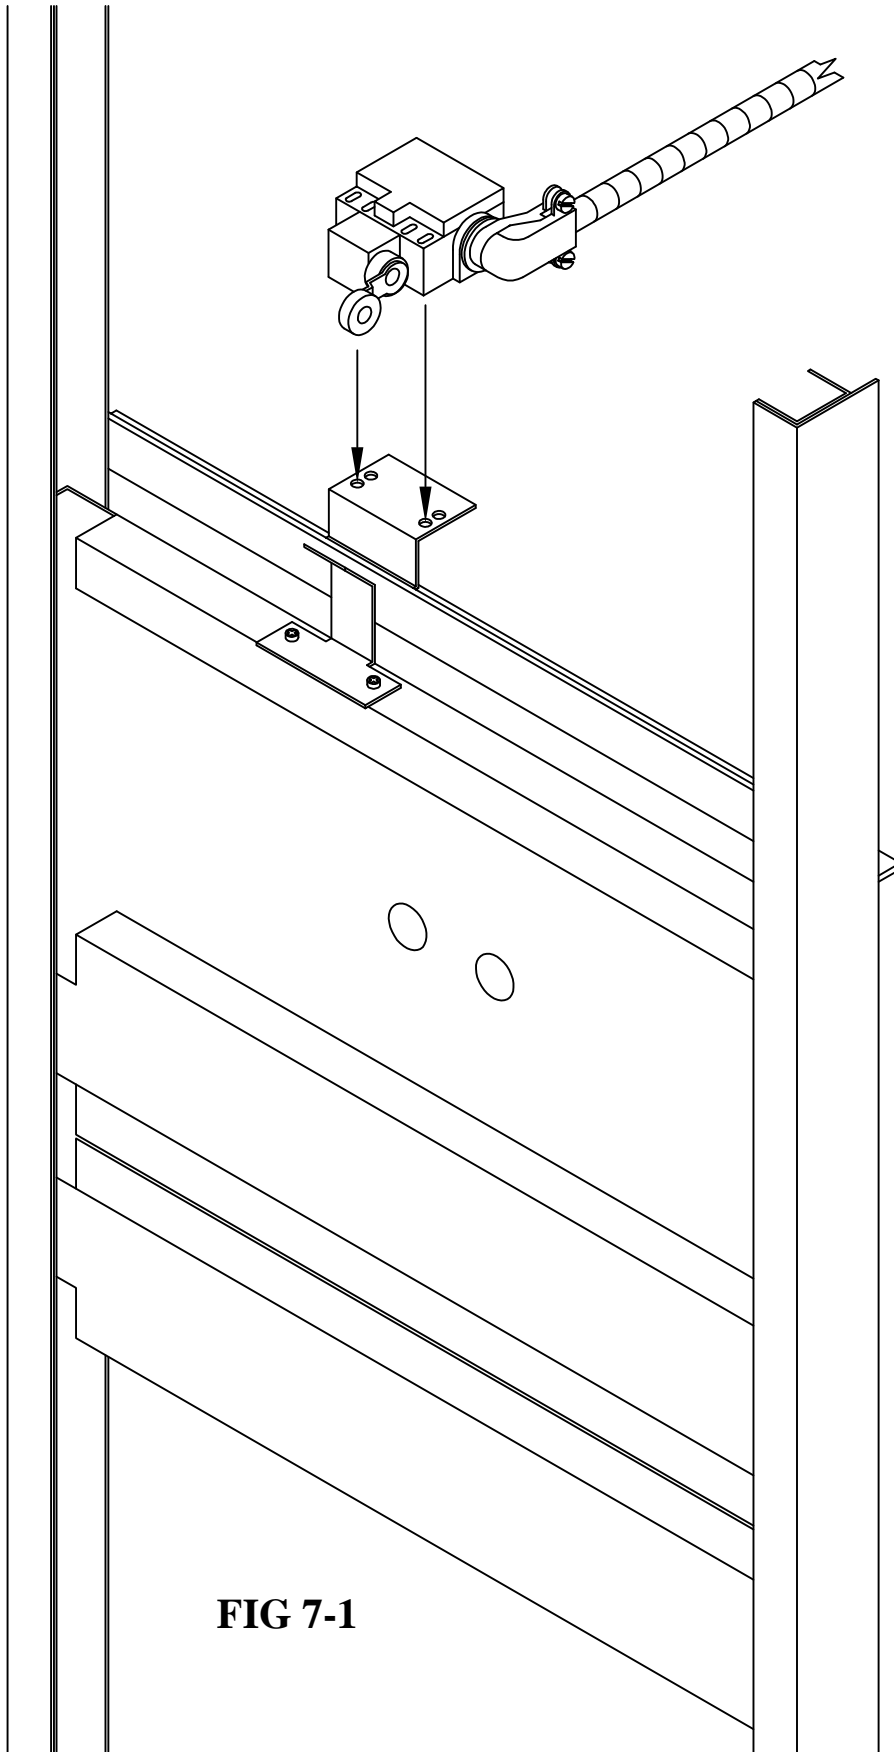

FIG 7-1
- 7c.** Mount the gate switch to the mounting bracket that is attached to the gate tie angle. If the switch is not mounted, a hazard exists, as a key element of the safety circuit will not function correctly. **See Fig. 7-1**
- 7h.** Mount the gate switch to the mounting bracket that is attached to the gate tie angle. If the switch is not mounted, a hazard exists, as a key element of the safety circuit will not function correctly. **See Fig. 7-1**